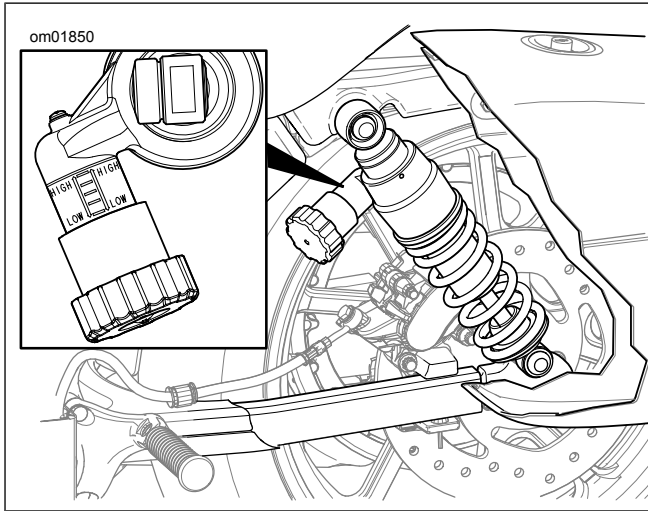

Figure 12. Preload Adjustment Knob: XL1200T
1. See Figure 12. Locate the preload adjustment knob behind the left saddlebag.